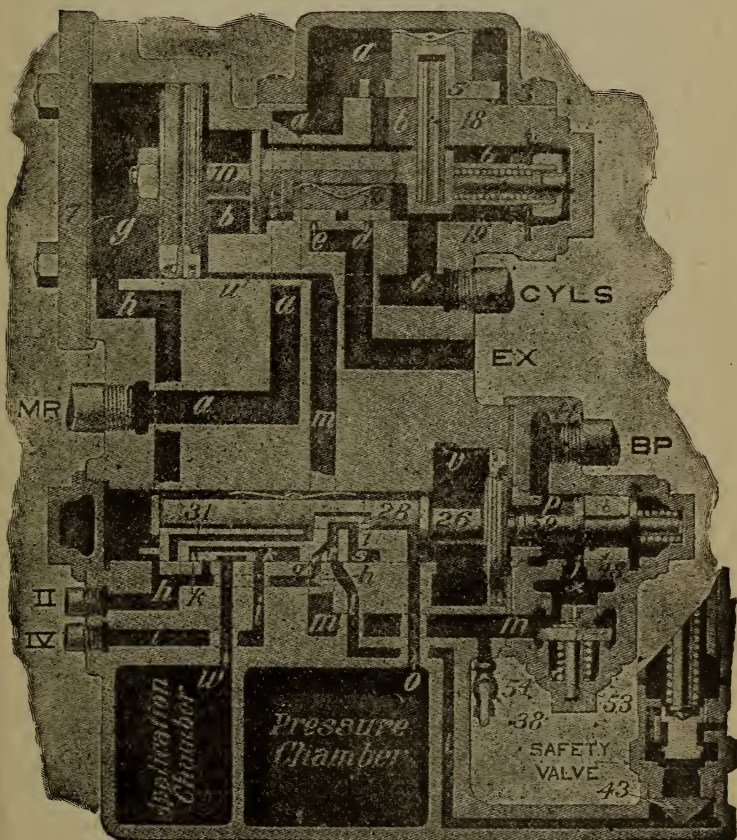
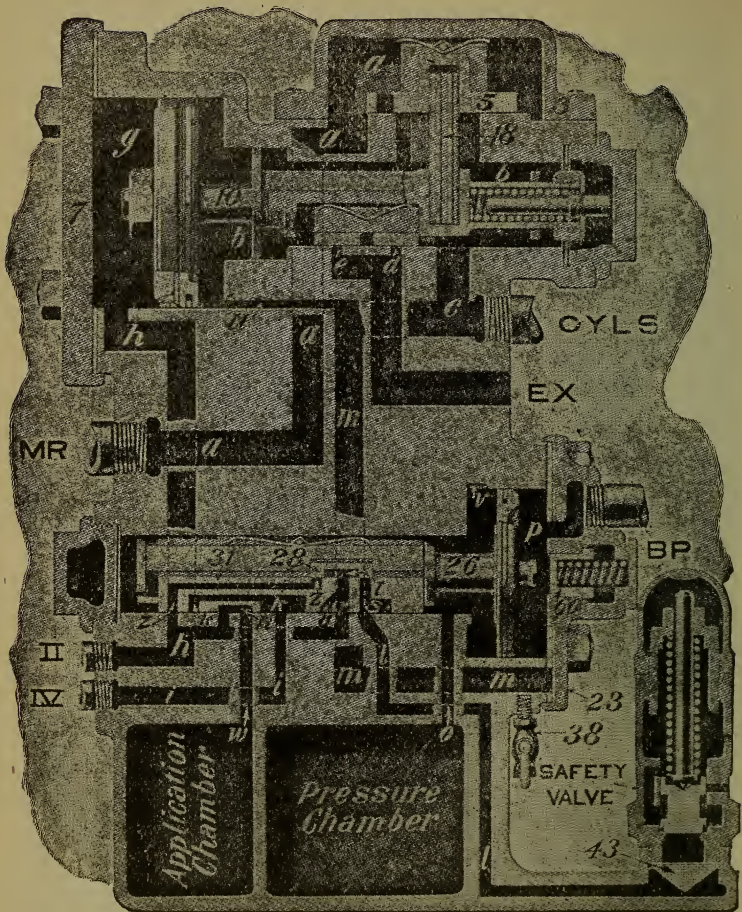

Fig. 3—Emergency Position of No. 6 Distributing Valve with Quick-Action Cap.
Fig. 4—No. 6 Distributing Valve Service Lap Position.
A. Air is admitted to the application cylinder *g* and the application chamber from the reducing valve through the independent brake valve and the intermediate pipe on the left (application chamber pipe). This pressure will force the application piston 10 to the right (see Figure 3), lapping exhaust ports *d* and *e* with exhaust valve 16, and compressing graduating spring 19 and open supply port *b* through the application valve 5 to the brake cylinder chamber *b*, which is connected to the right of the application piston, obtaining a brake cylinder pressure slightly exceeding that in the application cylinder, when it and the graduating spring 19 then moves the piston 10 and the application valve 5 back to lap position (see Figure 3). The exhaust valve 16 will remain lapped, as there is sufficient clearance between the shoulders of the piston stem and the exhaust valve to permit the application valve to return to lap without moving the exhaust valve. At the same time cavity *s* in the equalizing valve 31 registers with ports *h* and *l* in the seat, thus connecting the application cylinder port *h* to the safety valve. *The equalizing piston and slide valve do not move during an independent application of the brake.*
valve through cavity t in the graduating valve. As the piston continues its movement, the "spider" on the end of the piston stem engages the slide valve 31, which is then moved to the right until the supply port z in the equalizing valve registers with the application cylinder port h and through cavity n in the equalizing valve with application chamber port w in the seat. This permits the air in the pressure chamber to expand into the application cylinder. At the same time the safety valve is connected to the application cylinder and chamber by registering ports r and s in the equalizing valve with ports h and l in the seat and through the cavity t in the graduating valve, see Fig. 4. The amount of pressure obtained in the application cylinder and chamber depends upon the brake pipe reduction made. When the pressure in the pressure chamber is slightly reduced below that in the brake pipe, the piston and graduating valve are forced to the left until the collar on the piston stem comes in contact with the equalizing valve. This position is known as the "service lap," see Fig. 4. In this position the graduating valve has lapped port z between the pressure chamber and the application cylinder and has also lapped the safety valve port l . The air that expanded into the application cylinder and chamber will force the application piston 10 to the right, lapping the exhaust ports d and e with the exhaust valve 16, compressing graduating spring 19 and opening the supply port b through the application valve 5 to brake cylinder, as already explained.
below that in the pressure chamber on the opposite side of the piston. The considerable difference in pressure thus created on the two sides of equalizing piston 26 is sufficient to move it to its extreme position to the right, compressing graduating spring 46, see Fig. 3. In this position port *h* is open directly to the chamber above equalizing valve 31, past the end of the valve, so that air from the pressure chamber flows through port "o," through the chamber above equalizing valve to port "h" and the application cylinder "g." The application port *w* is blanked by the equalizing valve, 31 and the safety valve port *l* is connected through port *r* and restricted port *q* in valve 31 to port *h* of the application cylinder. The air that expanded into the application cylinder from the pressure chamber will force the application piston 10 to the right opening the application valve 5 as in service application and obtaining cylinder pressure equal to that in the application cylinder, when the application valve will lap.
Fig. 3), closing the exhaust ports and allowing air from the main reservoir branch pipe to flow to the brake cylinders until brake cylinder pressure becomes equal to that in the application cylinder, regardless of what the piston travel is, the number of cylinders, or the amount of leakage. When this pressure has been obtained, if brake cylinder leakage exists, the drop in cylinder pressure will reduce the pressure in chamber *b* on the right of piston 10 below that in application cylinder *g* on the opposite side of the piston. This will cause application piston 10 to again move to the right, opening application valve 5 and allowing air to flow from the main reservoirs to the brake cylinders until the brake cylinder pressure again equalizes with that in the application cylinder, when the application piston 10 and supply valve 5 will move to lap position (see Fig. 4). This action will continue indefinitely until the brakes are released.